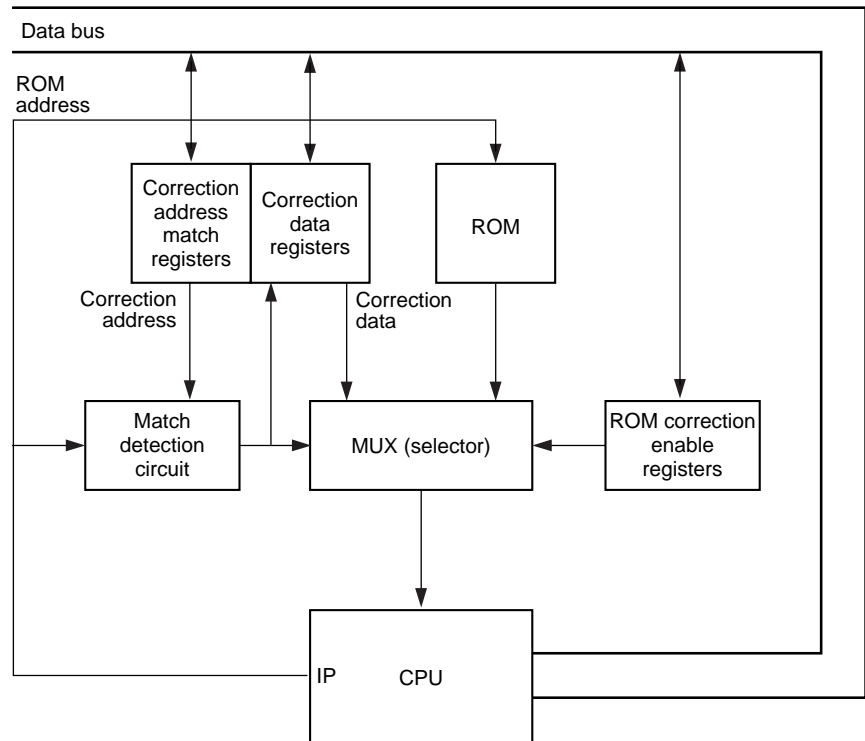

Figure 12-3 ROM Correction Block Diagram
Figure 12-3 is a block diagram of the ROM correction circuit. A match detection circuit constantly monitors the ROM address specified by the CPU instruction pointer (IP). When the value matches a correction address, the circuit replaces the data output from the ROM with the data in the appropriate correction data register. It then sends the corrected data to the CPU.